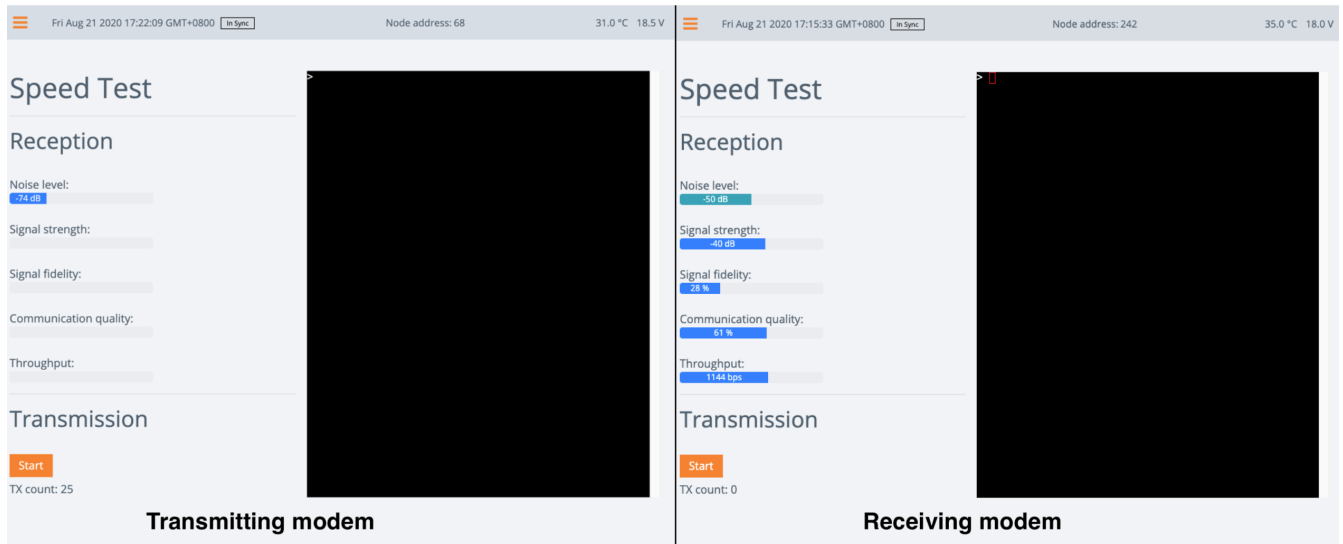

Figure 27. Dashboard for speed test
2. Click on the **Dashboards** section on the left side of the web interface and select **Speed Test** on the transmitting modem and receiving modem. This should open a page as shown in Figure 27: